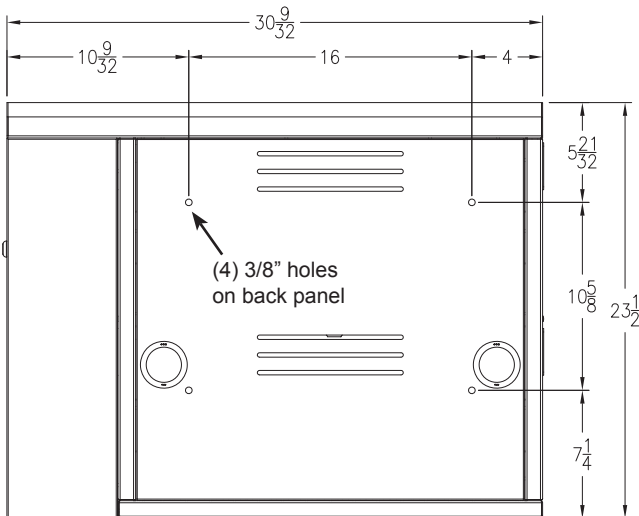

Figure 1B
3. Measure and mark the (4) hole locations on the wall. **Figure 1B.** Be sure fasteners will be anchored securely to studs or other solid portion of the wall.